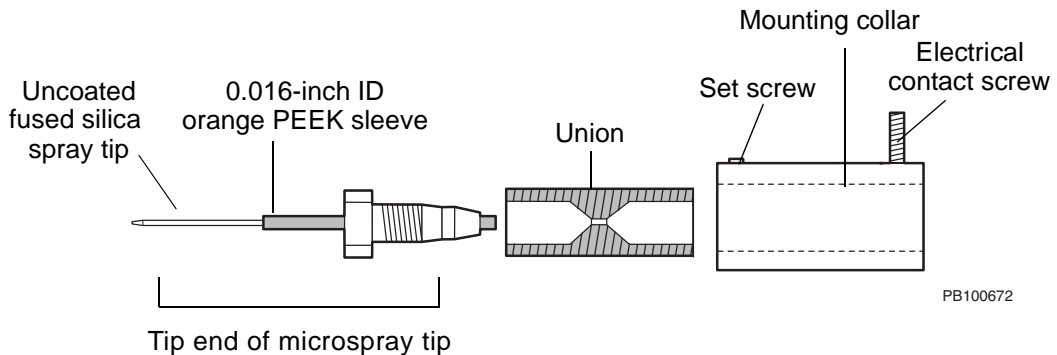

Figure 6-6 Installing Fused Silica Tip in the Microspray Spray Tip
1. Place a ferrule and nut on the square-cut end of the 3/4-inch length of orange PEEK sleeve (Figure 6-6).